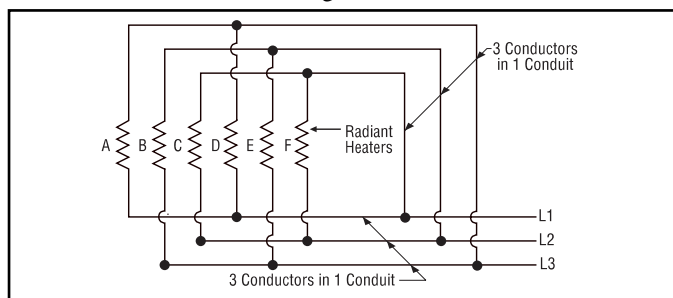

Figure 7 — Delta Connection
8. **DELTA CONNECTIONS** — When heaters occur in multiples of three, they may be connected to, and balanced across, three-phase lines. The most commonly used connection is the Delta connection illustrated in Figure 7.